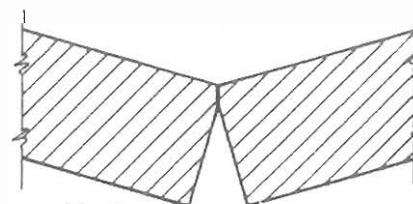
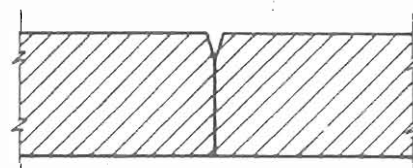
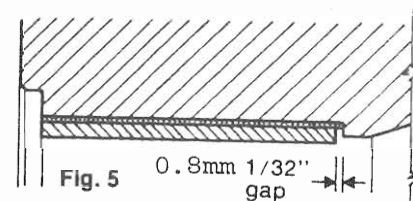

Fig. 3
Fig. 4
Fig. 5
- (e) Take a new wear strip and with chamfer end leading, butt the strip at the chamfers by twisting slightly, Fig 3, (this reduces the lead in diameter) and feed it inside the insulating strip, as it goes in straighten the strip gradually until it butts normally, Fig 4. Slide in as far as possible and complete assembly by tapping gently with a wood block round and round the outside edge. The wear strip is in the correct position when it is flush with the face of the bore, see Fig 5. the 0.8mm gap must be maintained to prevent electrical contact between the wear ring and the intake casting.